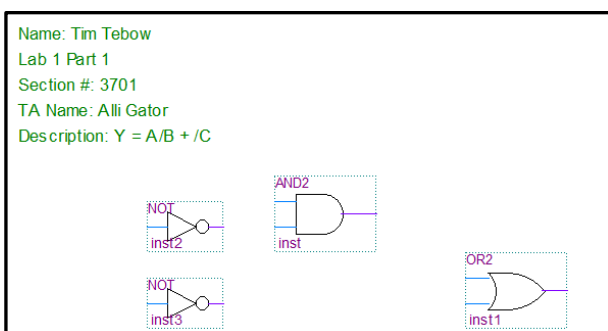

Figure 2: Bdf with logic symbols
13. Rearrange your devices in approximately the placement you would like for the logic diagram you are trying to construct. You can move a component by selecting it with your mouse, and either holding down the left mouse button and moving it to another location on your bdf or using your up/down/left/right arrow keys. The window should look similar to Figure 2.